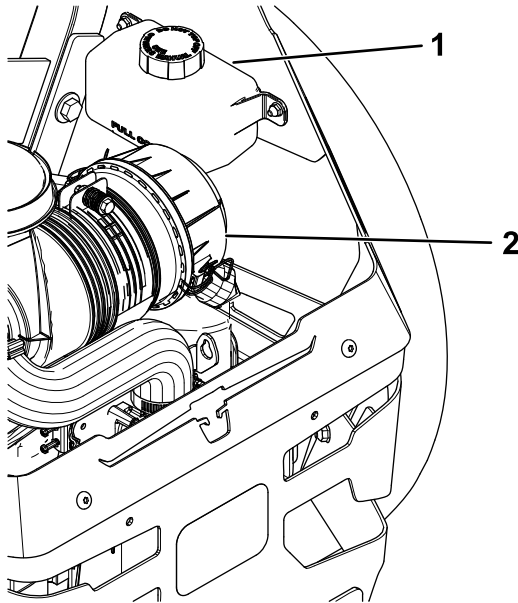

Figure 89
2. Check expansion reservoir and if necessary add Toro® HYPR-OIL™ 500 hydraulic fluid to the FULL COLD line (Figure 89).